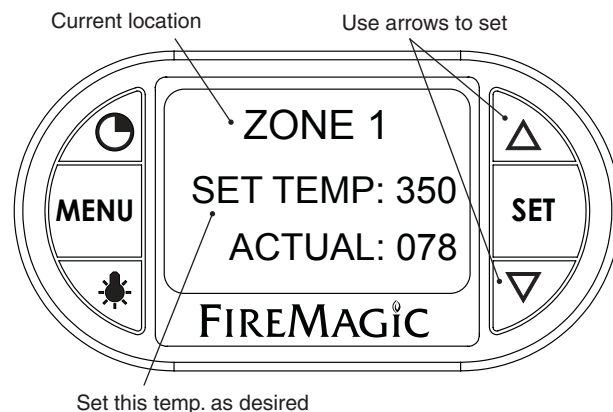

Fig. 29-1 Area temp. screen (zone 1 shown)
2. The selected location's temperature screen will be displayed. Use the arrows to set the desired temp. The actual temp. will also be shown. See Fig. 29-1.